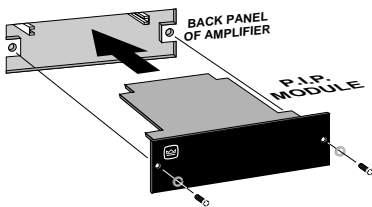

Fig. 3.2 Installation into a Standard P.I.P. Amplifier
3. Standard P.I.P. Amplifiers: Align the edges of the *P.I.P.-ISO* in the *P.I.P.* card rails and firmly push the unit in until it is seated against the mounting bracket (see Figure 3.2).